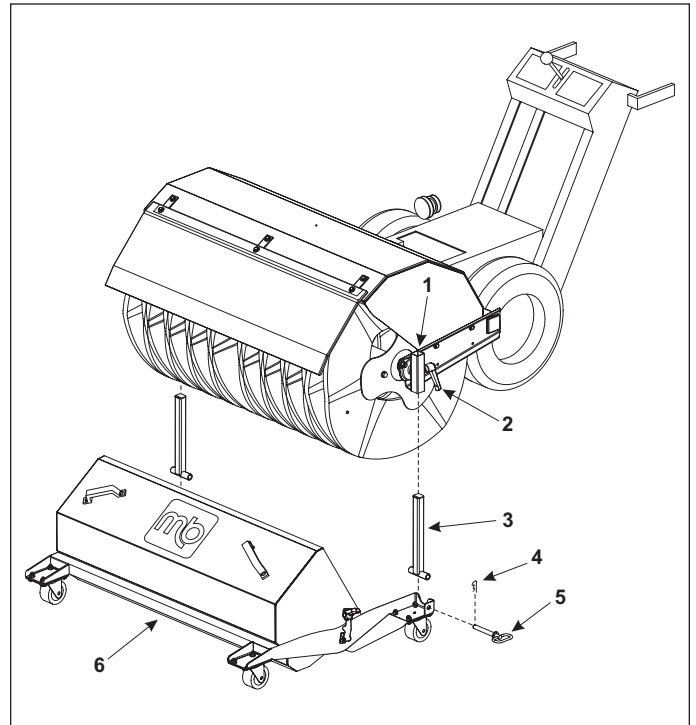

Figure 24. Debris Box Installation
- c. Position the deflector (7) and upper support strap (8) over the broom hood and deflector strap assembly. Secure the deflector through the second hole at the top of the deflector strap and broom hood using one bolt (9), washer (10) washer (4) and nut (5).
2. Raise and support the broom head assembly about 2" off the ground. Loosen the standard caster assembly by loosening the locking lever (2, Figure 24) and remove the caster assemblies. **NOTE:** Save the standard casters for future use.
3. Position the debris box assembly (6) in-front of the power broom.
4. Remove hitch pin (5), releasing debris box mounting tubes (3).
5. Raise the power broom upwards and insert the mounting tubes (3) through the mounting brackets (1) on the broom frame.
7. Insert hitch pin (5) to secure the broom assembly to the debris box. Install hairpin cotter pin (4) to secure the hitch pin.